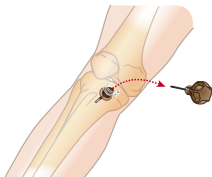

FIGURE 21
8. **Remove stylet** and place in NeedleVise® for sharps containment. (See Figure 21)